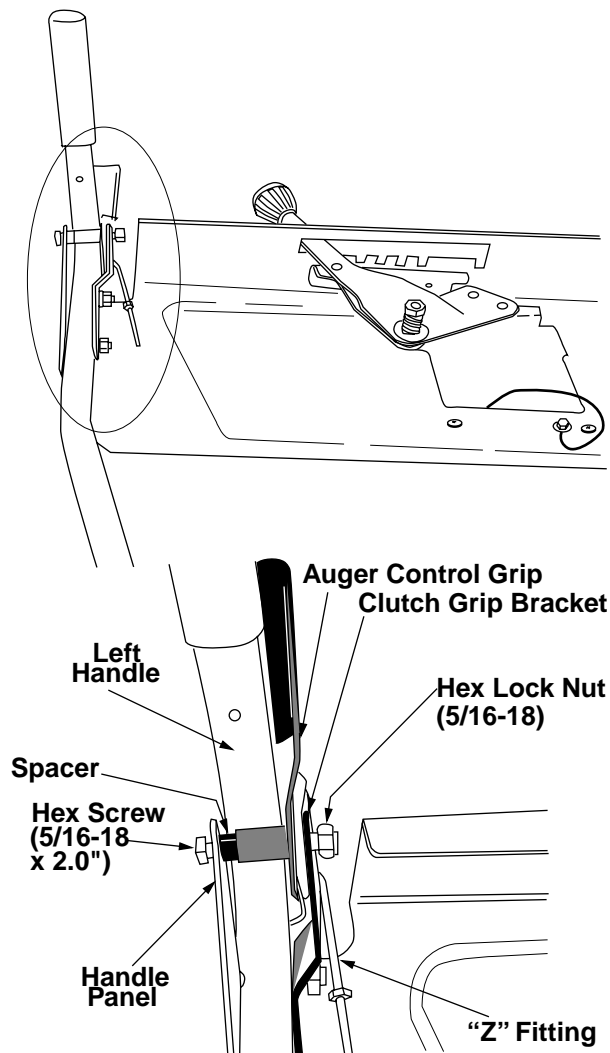

Figure 6
4. Place the auger control grip on top of the left handle. The triangular metal tab must be between the handle and the grip bracket. See Figure 6.
5. Secure with hex bolt, **spacer** and lock nut. See Figure 6. (Do not overtighten this bolt as it will prevent the grips from automatically returning to their upright position.)